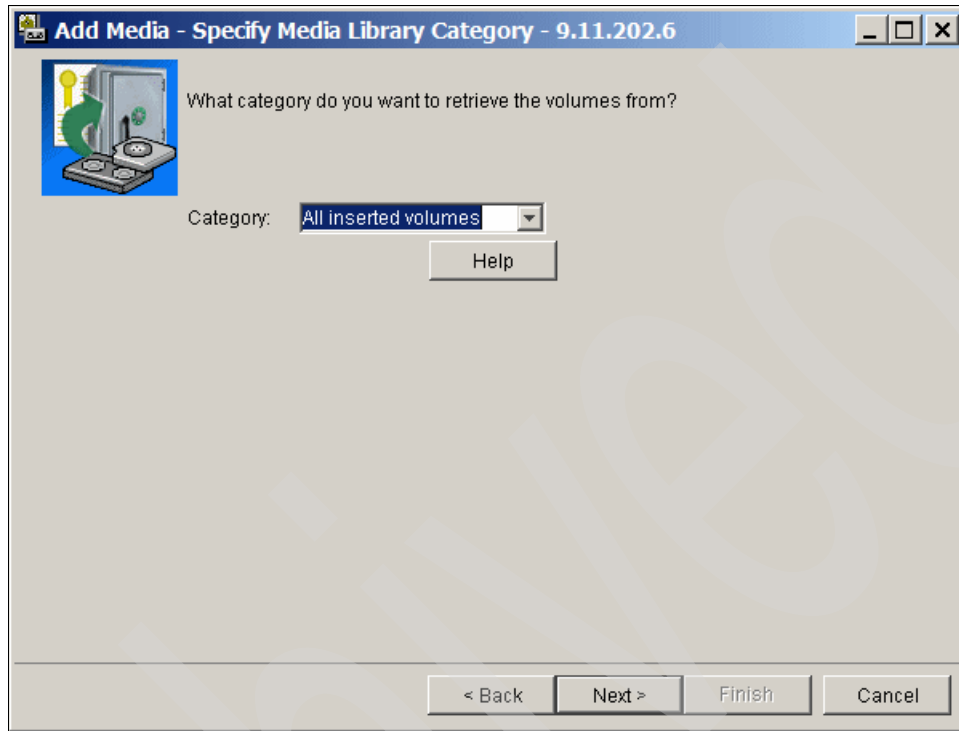

Figure 6-7 Add all inserted cartridges
- Next, you specify in the *Add Media* wizard from which category you want to add media. For information about categories, refer to 5.3, “Save and restore using basic i5/OS commands” on page 143. In our example we select all inserted cartridges, as shown in Figure 6-7. Click **Next**.